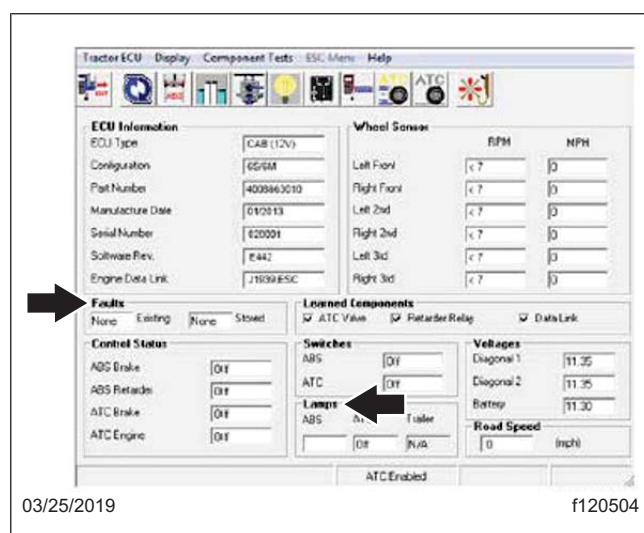
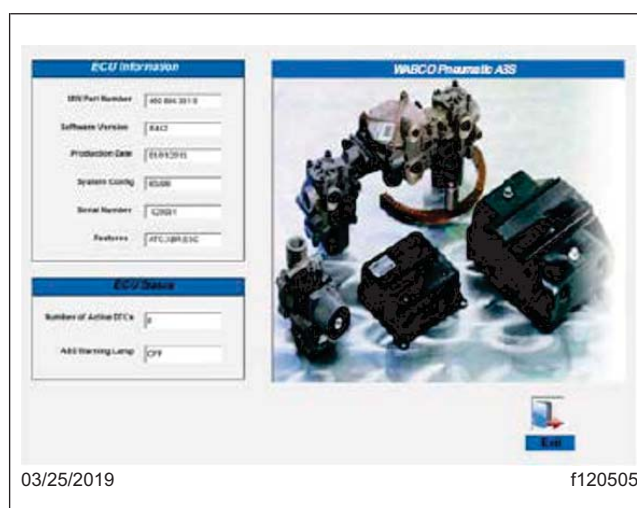

Fig. 14, Checking for Active Faults
Fig. 15, Checking for Active Faults, Screen 2
6. Turn the ignition to the ON position. Verify that no active or stored faults are logged in the ECU and that the ABS and ATC/ESC warning lamps are OFF. See Fig. 14 and Fig. 15.